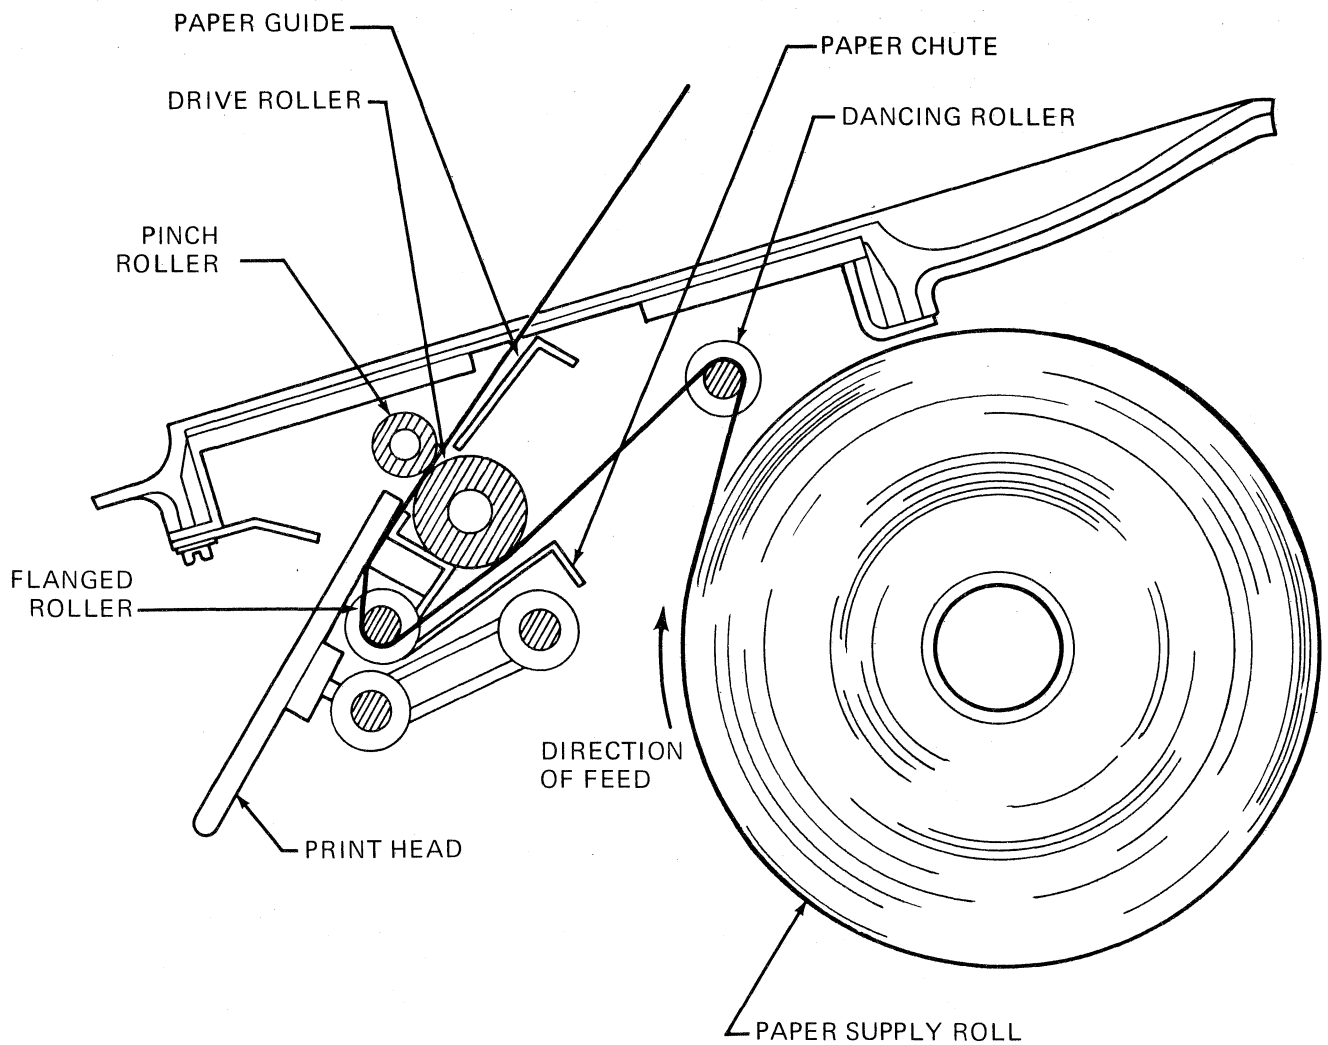

Figure 2-8. Paper Loading Diagram
- a. Open terminal cover and lift pressure pinch roller. (See Figure 2-8.)
- c. Put a roll of paper on the supply so that the paper feeds as shown in Figure 2-8.
- e. Thread the paper as shown in Figure 2-8. Be sure the paper is centered in the paper chute.